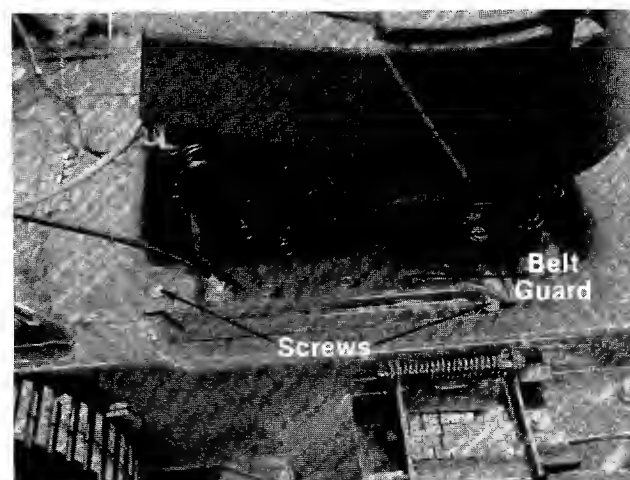

FIGURE 25.
5. Remove the two screws holding the belt guard cover on top of the deck. See figure 25.